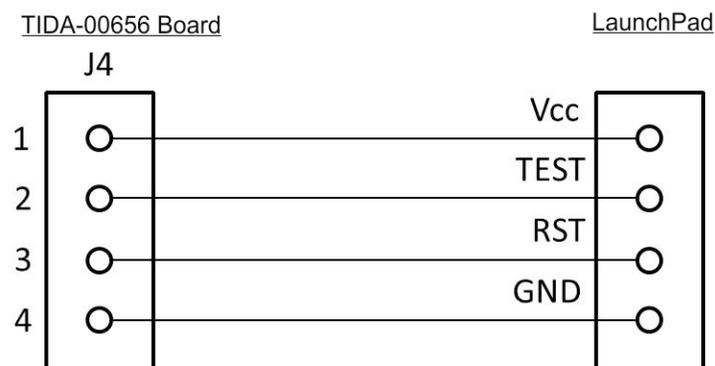
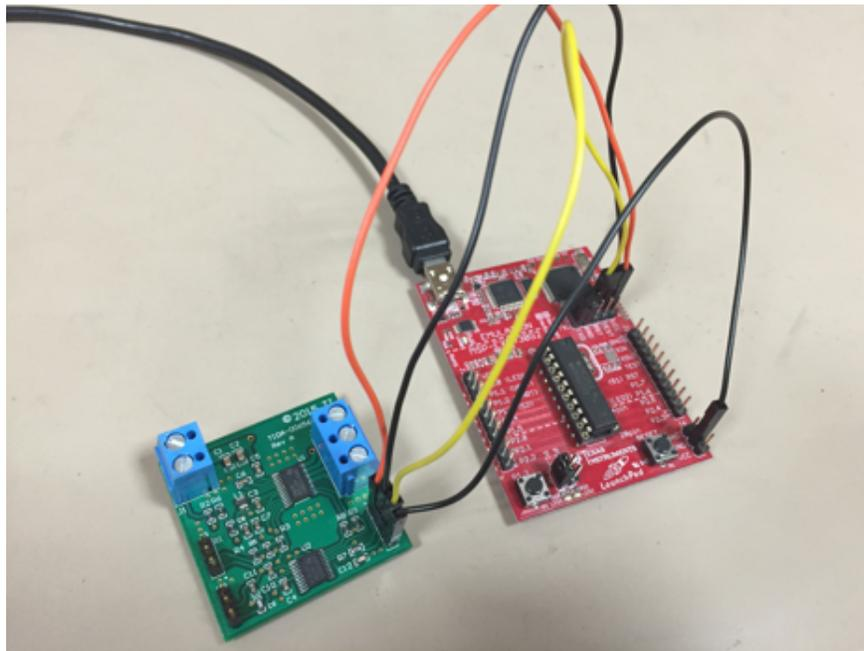

Figure 4. LaunchPad and TIDA-00656 Board Connections Diagram
Figure 5. Connections Between LaunchPad Programmer and TIDA-00656 Board
The following Figure 4 shows the connections from the MSP430 LaunchPad programming board to the TIDA-00565 board. Figure 5 shows a physical image of these connections.
- Connect the LaunchPad programmer to the TIDA-00656 board, as the preceding Figure 5 shows.